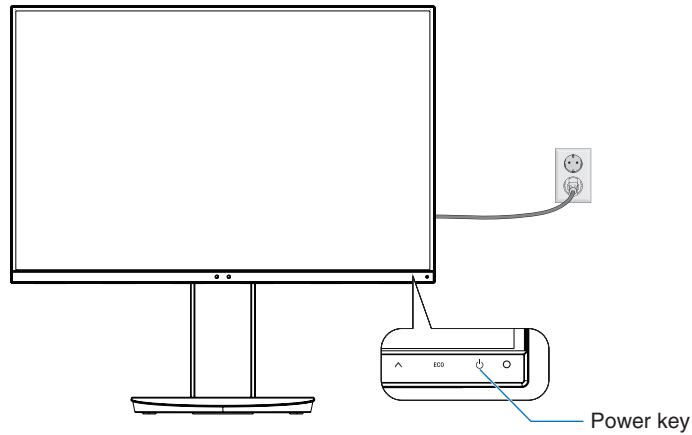

Figure E.1
8. Turn on the monitor by touching the power key and then turn on the computer (**Figure E.1**).